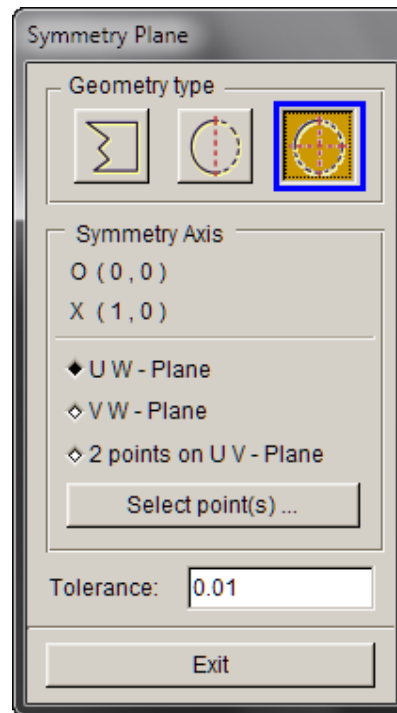

Figure 28
3. The dialog box pops up (Figure 28). Select the **Quarter Symmetry**.
5. Click **Exit** in Figure 28 to accept the result.